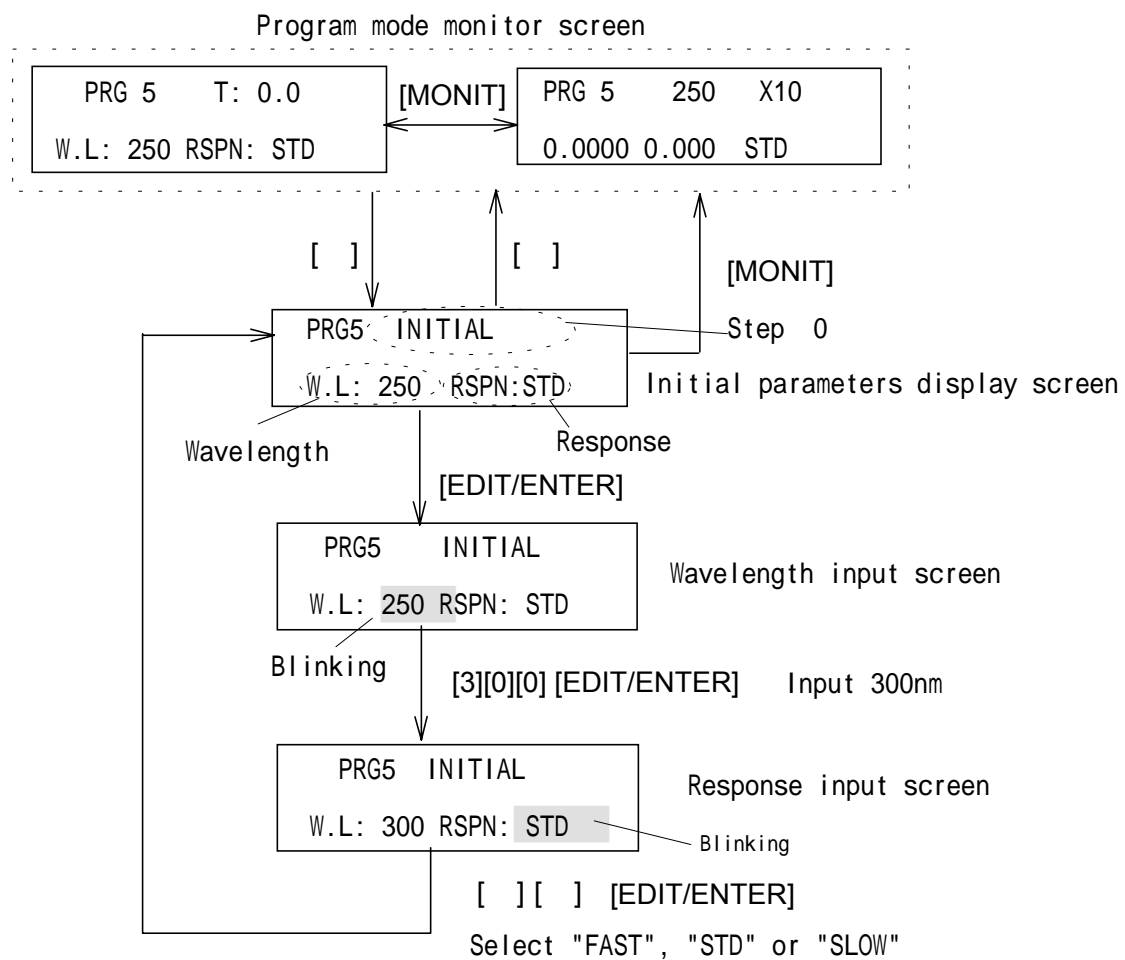
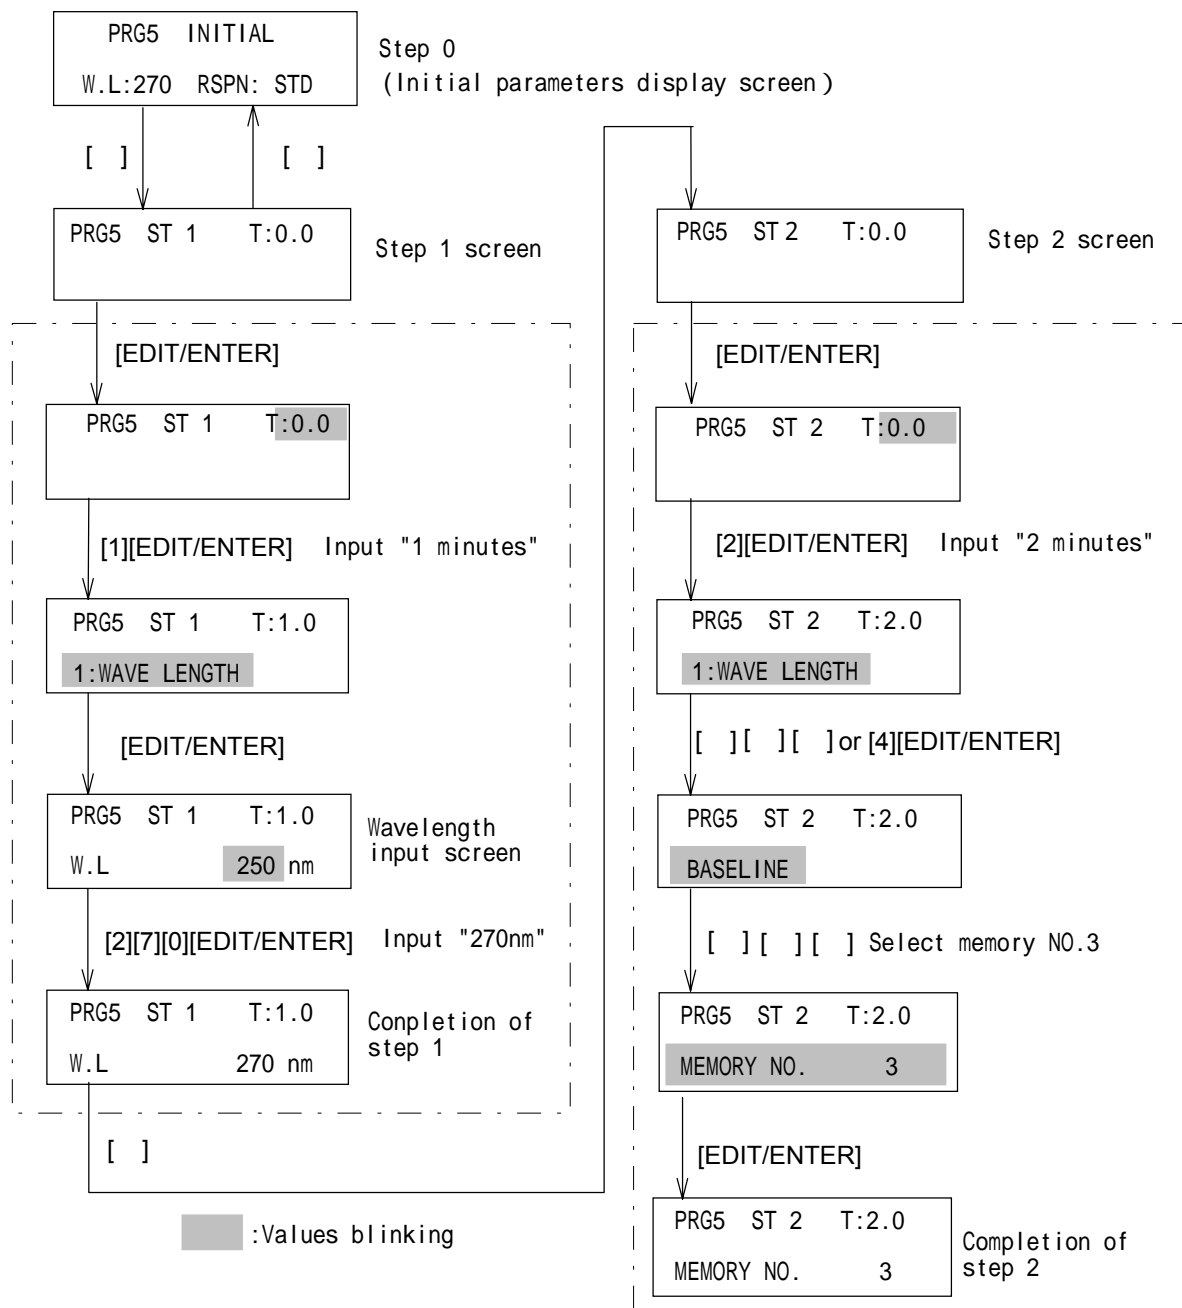

Figure 6.4 Editing the Initial Parameters
Figure 6.5 Instructions for Creating the Example Time Program
Press [] key while the program monitor screen is displayed. The Step 0 screen (Fig. 6.4) will appear. Wavelengths and sensitivity can be changed from this screen using the procedure described in Fig. 6.4.
Press the [] key while the initial parameters screen is displayed (Fig. 6.4). The Step 1 screen will appear. Use the procedure described in Fig. 6.5 to complete the time program.
- 6) Press [] to move to the next program step. Repeat this procedure until all steps are entered. After the final step completed, press [MONIT] to go to the program mode monitor screen. (see Fig. 6.4)